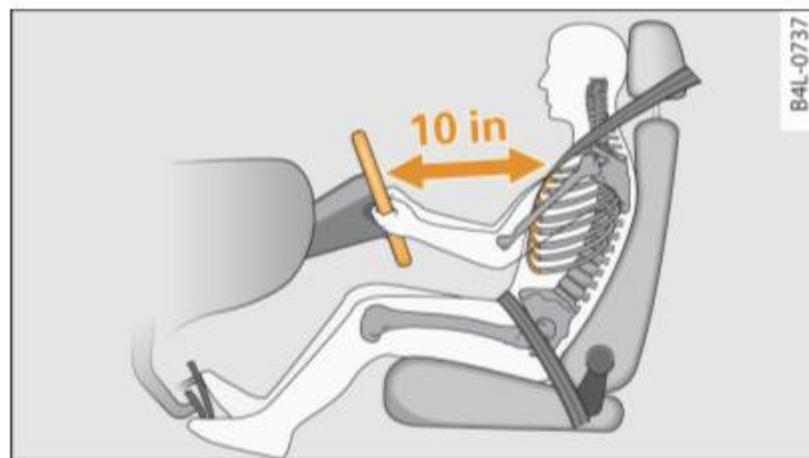

Fig. 156 The correct distance between driver and steering wheel
- Adjust the steering wheel so that there is a distance of at least 10 inches (25 cm) between the steering wheel and your breast bone ⇒ fig. 156. If not possible, see your authorized Audi dealer about adaptive equipment.